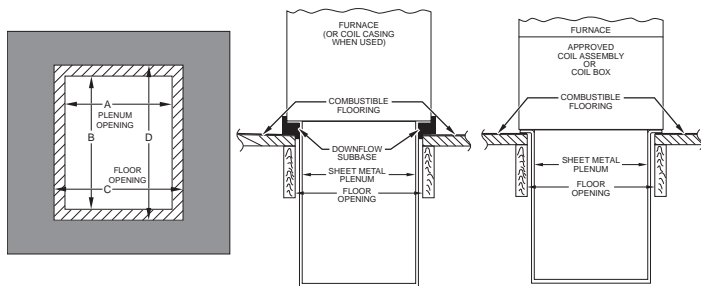

Fig. 25 – Installation on Combustible Flooring
2. Construct hole in floor per Table 5 and Fig. 25.
3. Construct plenum to dimensions specified in Table 5 and Fig. 25.
4. If downflow subbase is used, install as shown. If manufacturer's cased evaporator coil or coil casing is used, install as shown in Fig. 25.